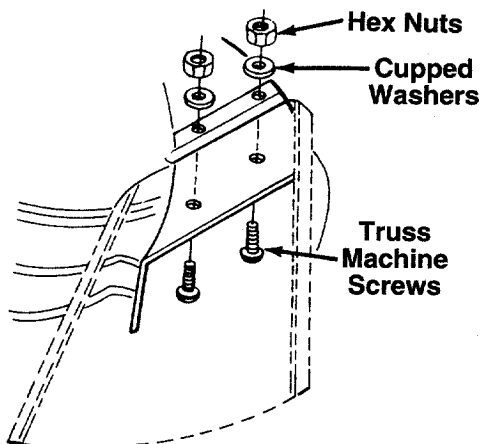

FIGURE 5.
3. Place the chute deflector in position as shown in figure 5. ← Secure with hardware just removed. Cupped side of washers goes against the chute deflector.